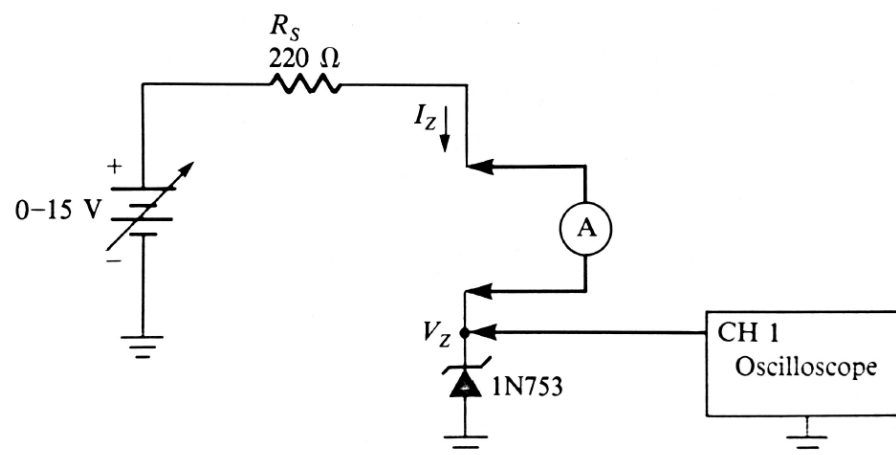

Figure 4 AC series circuit measurements
- Wire the circuit shown in Figure 4.